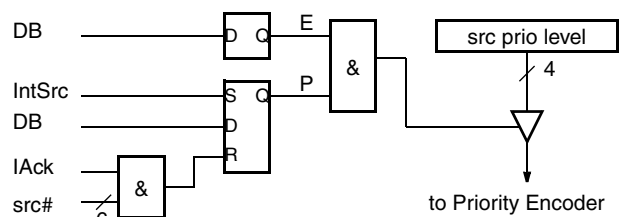

Fig. 11-2: ISN flags
Each falling edge of an interrupt source signals an interrupt request to its ISN and sets its pending flag "P" (Fig. 11-2). Apart from the flag P, each ISN consists of an enable flag (E), and a source priority register containing the priority of the corresponding interrupt source. As long as both flags (E and P) are true, the ISN outputs its priority. Otherwise it outputs the lowest priority (that is no priority).